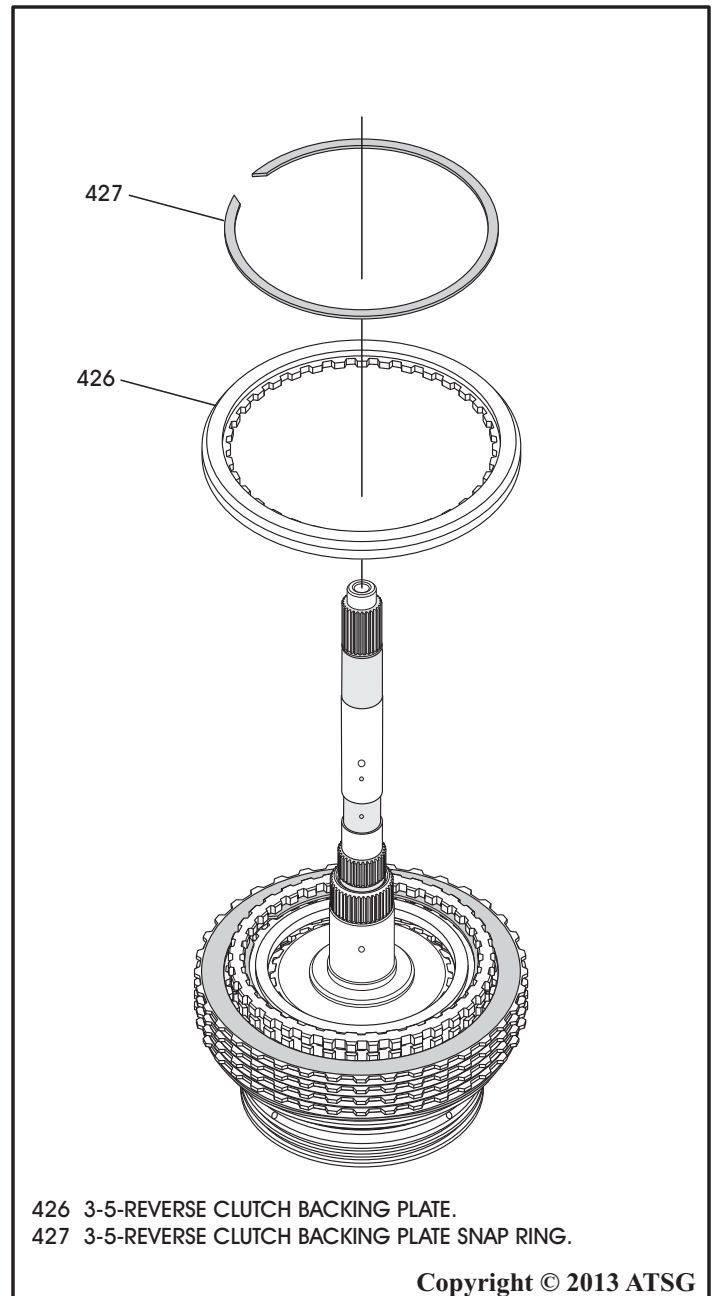

Figure 142
12. Turn the assembly over with input shaft facing up, as shown in Figure 142.
13. Remove the 3-5-Rev clutch backing plate snap ring, as shown in Figure 142.
14. Remove the 3-5-Rev clutch backing plate, as shown in Figure 142.